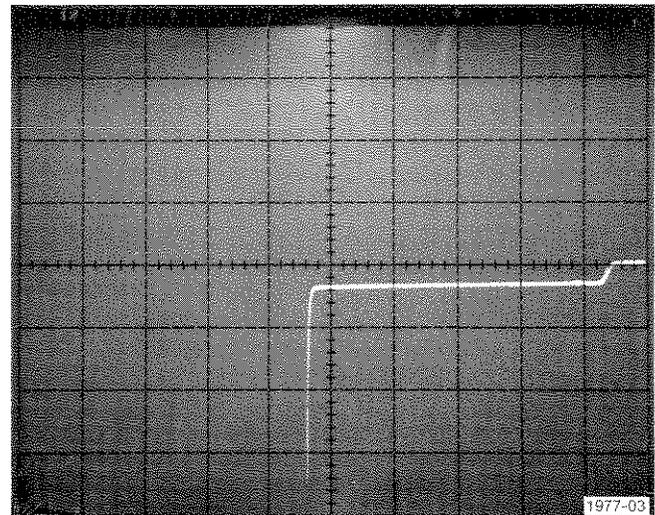

Fig. A-3. Check of LM324 + input bias current.
b. Check that the vertical deflection is ≤ 5 divisions from graticule center (≤ 500 nA, see Fig. A-3). Change the VERT UNITS/DIV switch setting if better resolution is needed.